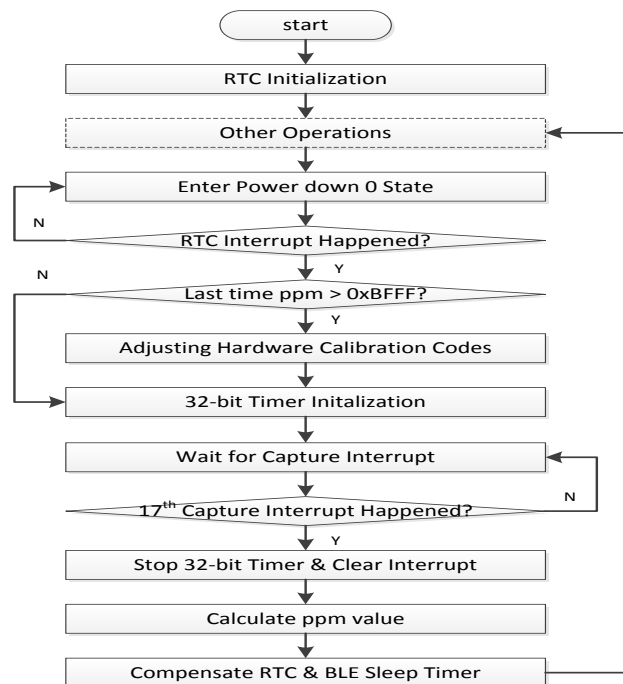

Figure 3: Software calibration work flow
The flow chart of software calibration is shown in Figure 3. The key parameters and key operations are described in the following:
4. ppm counting length: The 32k RCO clock is connected to the third capture input (CAP[2]) of CTimer, a capture interrupt would be generated on the rising edge of the 32k RCO clock. There is always jitter in the capture value when the counting length is small. The cycle of the clock is 32.5us, according to the testing of NXP, 16 cycles are a reasonable interval to get the capture result and calculate ppm. Figure 3 illustrates the power profiling with 32k RCO calibration enabled.